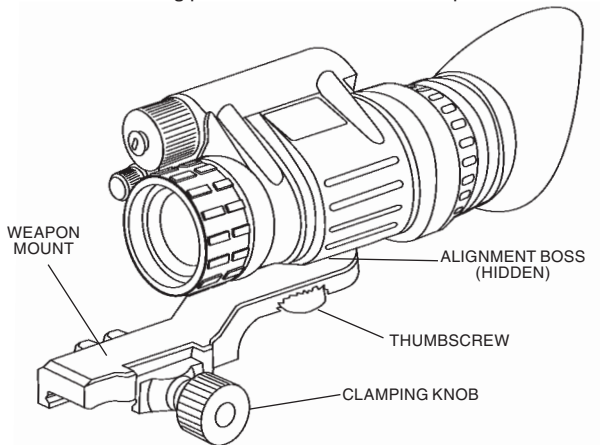

FIGURE 2.15. WEAPON MOUNT USAGE
(1) Orient the monocular and weapon mount as shown in Figure 2.15. Be sure to align the alignment boss on the weapon mount with the alignment groove in the monocular.
- (2) Screw in the thumbscrew to secure the monocular to the weapon mount.
- (3) Loosen the clamping knob on the weapon mount. Position the weapon mount with the monocular onto the weapon's mounting rail. Tighten by turning the clamping knob.